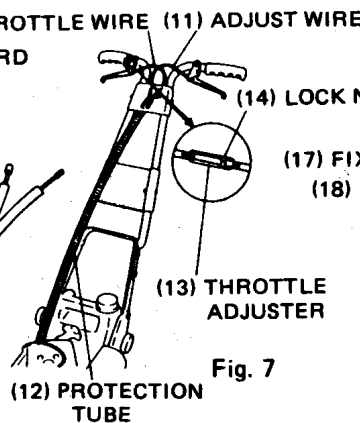

Fig. 7
- a. Route the protection tube containing the adjust wire, throttle wire, and stop cord as shown in figure 7.
- c. Connect the throttle wire end to the throttle lever which is located on the right handle. After connection of throttle wire, turn throttle adjuster counterclockwise until play between the throttle lever and wire becomes minimized and then lock throttle adjuster with lock nut. (Fig. 7)
- d. Connect the adjust wire to the adjust lever which is located on the left handle. (Fig. 7)